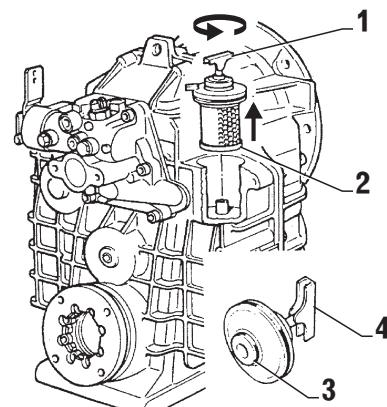

FIG. 1-1
Remove fluid filter (item 1, Fig. 1-1) from housing by turning and pulling at the same time.
Pull filter element (item 2, Fig. 1-1) off.
Check O-rings (item 3 and 4, Fig. 1-1) for wear, replace if necessary.